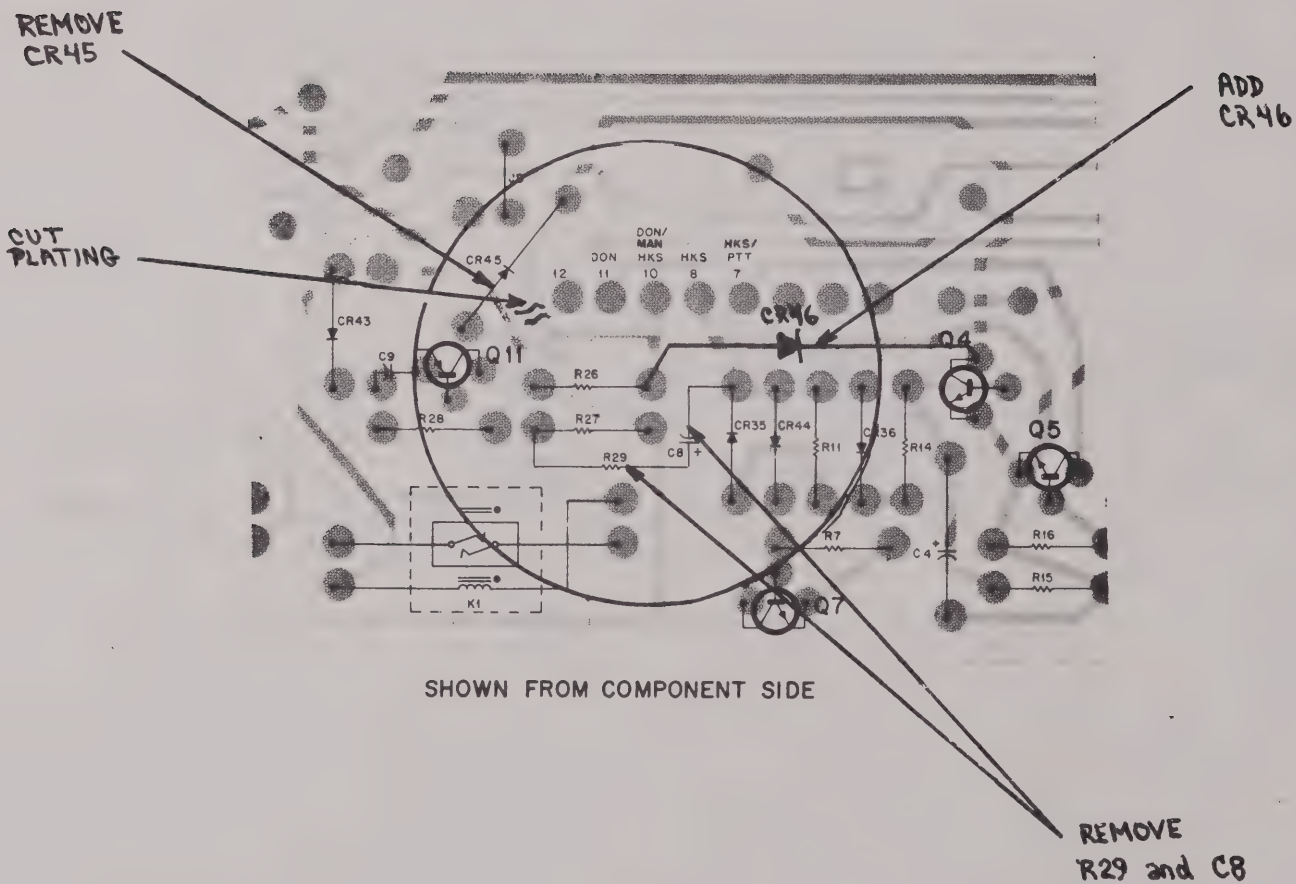
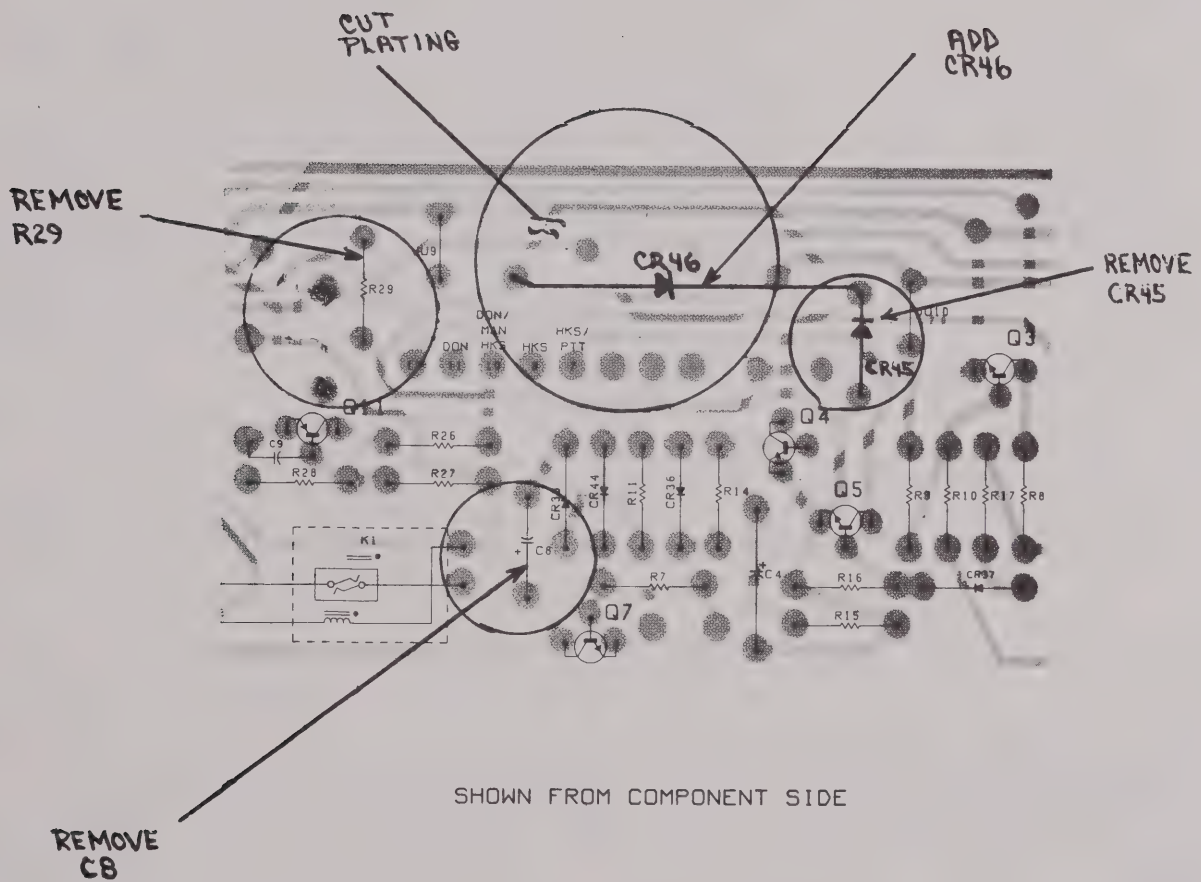

Figure 2. TRN6025A-1 Manual Control Board Partial Circuit Board Detail
Figure 3. TRN6025A-2 Manual Control Board Partial Circuit Board Detail
2. Cut the PC board foil as shown in Figure 2 or Figure 3.
3. Add a silicon diode, CR46 (Pt. No. 48-83654H01 or equivalent) as shown in Figure 2 or Figure 3.